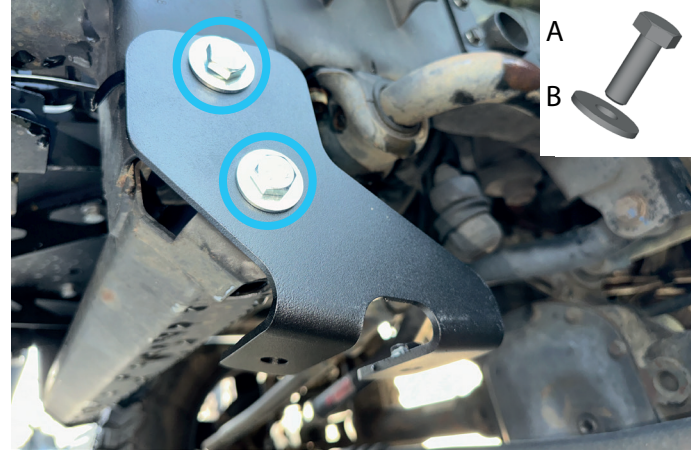

Fig. 2
2. Fix mounting bracket left JK (item 2) using bolts M10x30 (item A) and washers 10 (item B), as shown in fig.2.